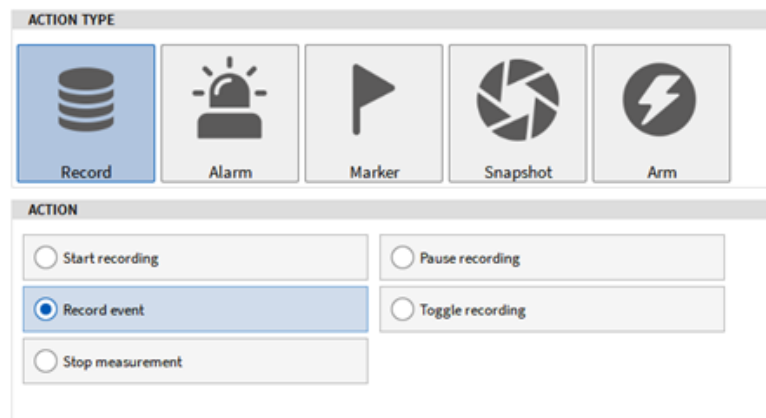

Fig. 9.33: Record Event Action Type
- Select *Record Event* as Action Type (see Fig. 9.33):